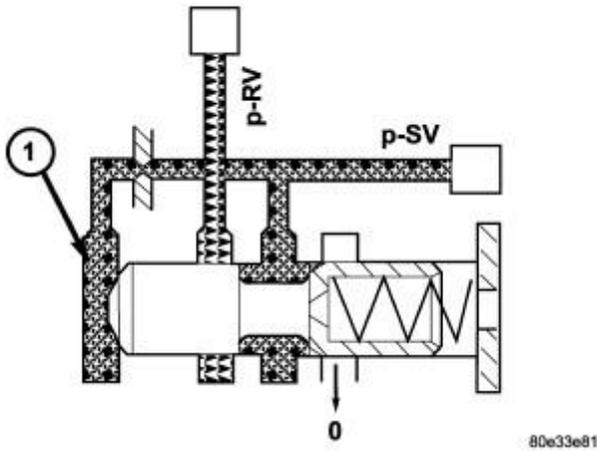

Fig. 229: Shift Valve Pressure Regulating Valve
The shift valve pressure regulating valve (1) is located in the valve housing of the electrohydraulic control module. Refer to **Fig. 229**. It regulates the shift valve pressure (p-SV).